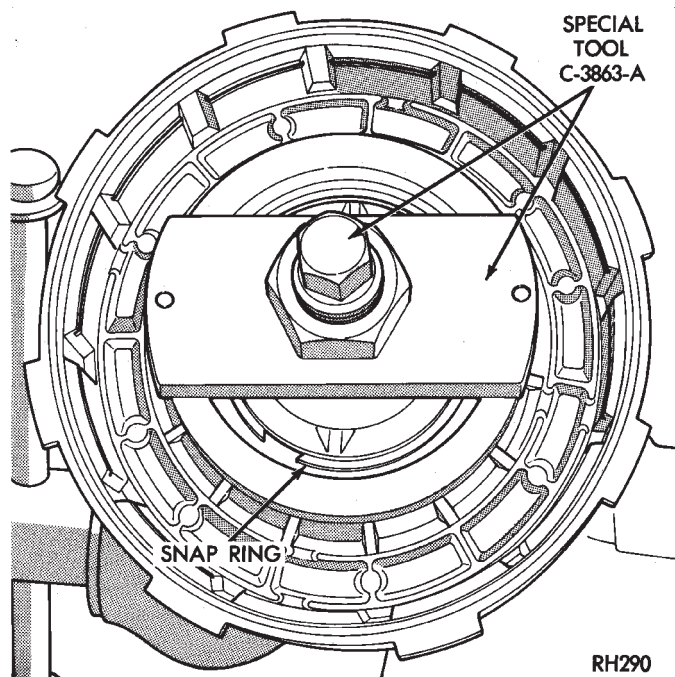

Fig. 163 Removing Front Clutch Spring Retainer Snap Ring
(1) Remove waved snap ring and remove reaction plate, clutch plates and clutch discs.
(2) Compress clutch piston retainer and piston springs with Compressor Tool C-3863-A (Fig. 163).
(3) Remove retainer snap ring and remove compressor tool.